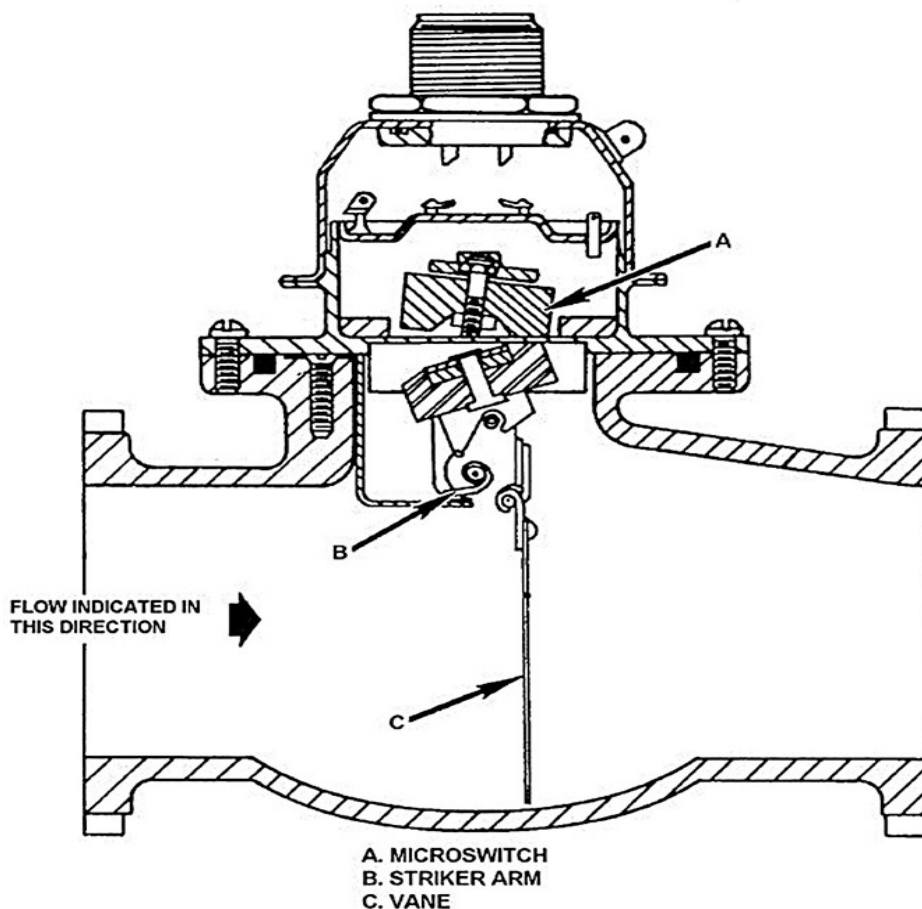

Figure 3-2. Fuel-flow indicating switch.
A cutaway illustration of a fuel-flow indicating switch is shown in figure 3-2, and the switch is used to indicate a flow- or no-flow condition. Sufficient fuel flow through the fuel manifold from the left side causes the vane (C) to swing to the right. The striker arm (B) contacts the microswitch (A) in the head of the unit. This breaks the electrical circuit and indicates fuel flow. When flow is stopped by either a closed valve downstream or an empty fuel tank, the vane (C) moves to the position shown in figure 3-2. The microswitch then completes the electrical circuit and gives an indication of no flow.